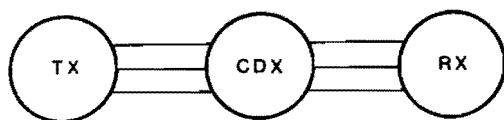

Figure 7-13 Block diagram of a synchro system.
The synchro system is usually made up of 3 elements. The 3 elements are a synchro transmitter (TX), synchro differential transmitter (CDX), and a synchro receiver (RX). A basic synchro system block diagram is shown in Figure 7-13.